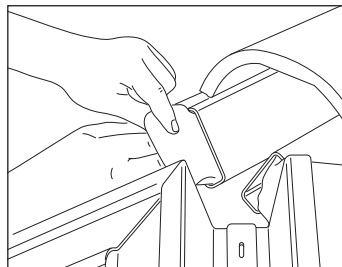

Fig. 12 – Insert closed cell foam rubber slip
- 23 At hip apex, mitre dry hip batten sections together as closely as possible. When forming a junction with the Marley Eternit ventilated dry ridge system, ensure the closed cell foam rubber strip 100mm longer than required, and insert into dry ridge batten sections to ensure a watertight seal (Fig. 12).